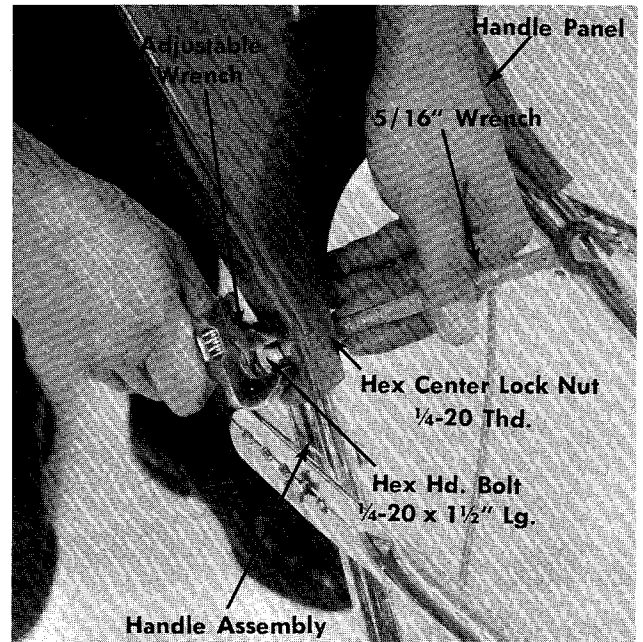

**FIGURE 13. THROTTLE ASSEMBLY TO PANEL**
- a. Start the two (2) self tapping screws 8-32 x 1/2" in by hand which hold the throttle control to the handle panel. See figure 13.
- b. Secure two (2) Self Tapping Screws 8-32 x 1/2" holding throttle control to handle with a screwdriver tightly. See figure 13.